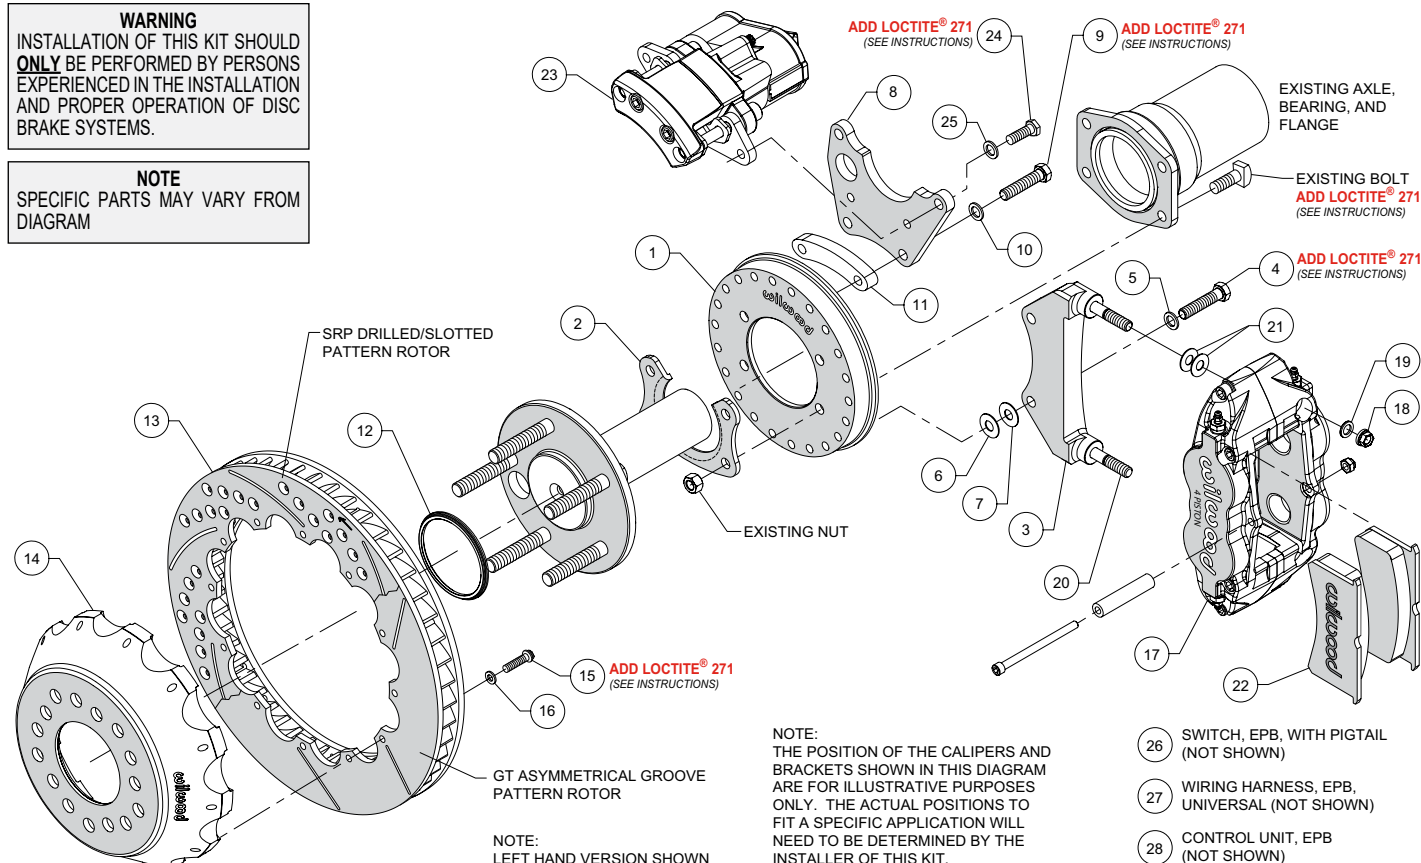
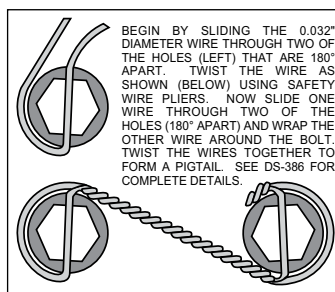

Figure 1. Typical Installation Configuration
Figure 5. Safety Wire Diagram
NOTE: Numbers in parenthesis refer to the parts list and Figure 1 on the preceding pages.
- Orient the backing plate (1) as shown in Figure 1 and Photo 1, and slide it onto the axle housing flange. Ensure the backing plate fits flush against the axle housing flange. Reinstall the axle into the axle housing.
- Install the bearing retainer (2) with the opening pointing upward and the lip facing inward (toward the bearing), as shown in Figures 1 and 4, and Photo 2. Secure retainer and backing plate to the axle housing flange using the Original Equipment Manufacturer (OEM) bolts and nuts, Figure 1 and Photo 3. Apply red *Loctite*® 271 to the OEM bolt threads and torque to OEM specifications.
- Start by determining the best location for the service caliper (17). This caliper is usually mounted in the 3:00 or 9:00 o'clock position, but may be rotated up or down approximately 45 degrees and still allow for proper bleeding, Photo 4. Orient the service caliper bracket (3) as shown in Figure 1 and Photo 5, and install to the backing plate (1) in the desired location using bolts (4) and washers (5). Temporarily tighten bolts. Next, mount the service caliper onto the bracket. Mount the service caliper using lock nuts (18) and washers (19), Figure 1. Temporarily tighten the lock nuts. Check that the caliper (including inlet fitting and hose) has sufficient clearance to all surrounding components through the full suspension travel. Relocate the caliper/bracket on the backing plate as needed to ensure proper clearance is achieved.
- Determine the best location for the EPB caliper (23). **NOTE:** *The EPB caliper motor extends farther inboard than the service caliper and therefore needs additional consideration when determining a mounting location with sufficient clearance.* In the example application shown in Photo 6, the EPB caliper has sufficient inboard clearance to the leaf spring. However, if the EPB caliper were mounted closer to the 12:00 o'clock position, the inner body of the vehicle would hit the caliper during full compression of the suspension.
•Orient the EPB caliper bracket (8) as shown in Figure 1 and Photo 7, and install to the backing plate (1) in the desired location using bolts (9), washers (10), and spacer (11). Temporarily tighten bolts. **NOTE:** The EPB bracket is reversible. In one direction the bracket will position the EPB caliper closer to the service caliper, and vice versa if reversing the bracket. Next, mount the EPB caliper (23) to the bracket using bolts (24) and washers (25). Temporarily tighten bolts. **NOTE:** EPB calipers are Left and Right handed, however they can be used on either side of the vehicle to best suit your specific application. Check that the EPB caliper (including wiring harness connector) has sufficient clearance to all surrounding components through the full suspension travel. Relocate the EPB caliper/bracket on the backing plate as needed to ensure proper clearance is achieved.
•Once the caliper positions have been determined, remove both the service (17) and EPB (23) calipers, leaving both brackets in place on the backing plate. For the EPB bracket, remove the bolts one at a time, apply red *Loctite*® 271 to the threads, and torque to 35 ft-lb. The service caliper bracket will be final installed after shimming is determined.
•Orient the rotor (13) and the hat (14) as shown in Figure 1 and Photo 8. Attach rotor to hat using bolts (15) and washers (16). Apply red *Loctite*® 271 to the bolt threads and torque to 155 in-lb using a criss-cross pattern. For an added measure of security, the bolts may be safety wired using standard 0.032 inch diameter stainless steel safety wire as shown in Figure 5. Please refer to Wilwood's data sheet DS-386 (available at www.wilwood.com/Pdf/DataSheets/ds386.pdf) for complete safety wire installation instructions.
•Initially place two .035" thick shims (21) on each stud of the service caliper bracket (3), as shown in Figure 1 and Photo 10. Mount the caliper onto the bracket using lock nuts (18) and washers (19), Figure 1. Temporarily tighten the lock nuts and view the rotor through the top opening of the caliper. The rotor should be centered in the caliper, Photo 11. If not, adjust by adding or subtracting shims (6 and/or 7)) between the service caliper bracket (3) and the backing plate (1). Always use the same amount of shims on each of the two mounting bolts. Once the caliper alignment is correct, remove the bracket mounting bolts (4) one at a time, apply red *Loctite*® 271 to the threads, and torque bolts to 35 ft-lb.
- Mount the EPB caliper (23) onto the caliper mounting bracket (8) using bolts (24) and washers (25), Figure 1. Apply red *Loctite*® 271 to bolt threads, and torque to 30 ft-lb.
• **NOTE:** The service caliper (17) in this brake kit utilizes a 1/8-27 NPT pipe thread inlet. OEM rubber brake hoses generally cannot be adapted to Wilwood calipers. The preferred method is to use steel adapter fittings at the caliper, either straight, 45 or 90 degree (use PTFE tape on pipe threads of adapter fitting for proper sealing to caliper) and enough steel braided line to allow for full suspension travel. **Carefully route hoses to prevent contact with moving suspension, brake or wheel components.** **NOTE:** Wilwood hose kits are designed for use in many different vehicle applications and it is the installer's responsibility to properly route and ensure adequate clearance and retention for brake hose components. Wilwood offers universal brake flex line hose kits, domestic (3/8-24 IF) chassis fittings, order: